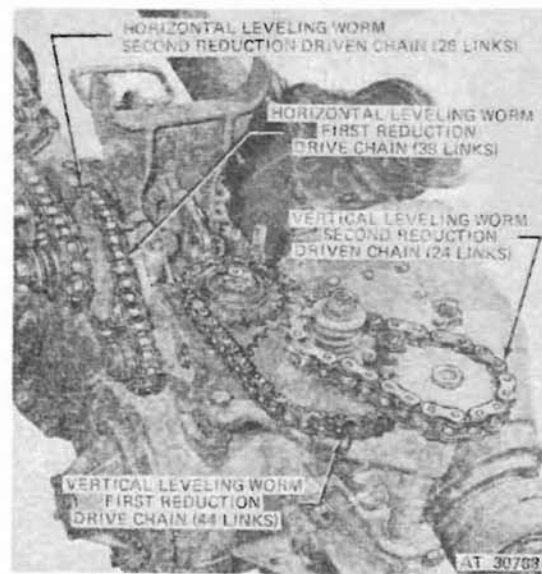
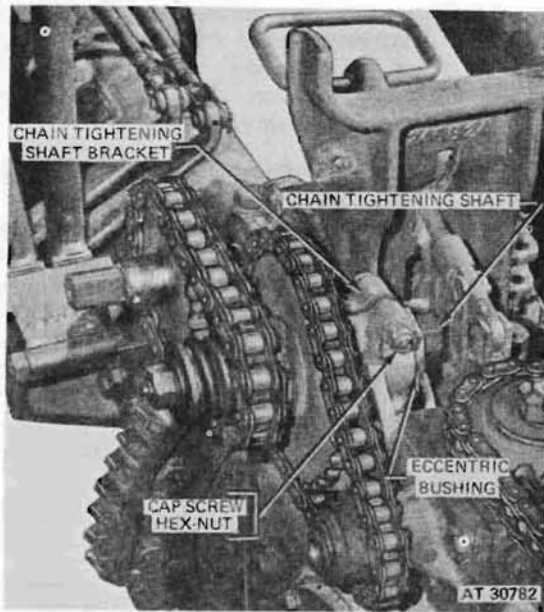

Figure 465. Earth boring machine leveling worm drive chains.
Figure 466. Horizontal leveling chain tightening points.
*a. Repair.* Refer to paragraph 418*a* for procedures for repairing the horizontal and vertical leveling worm drive chains. Each chain is composed of the number of links indicated in figure 465 when
(b) *Remove chain assembly.* Loosen cap screw and hex nut in chain tightening shaft bracket (fig. 466). Using 1-1/8 open end wrench and adjustable open end wrench turn eccentric holding chain tightening shaft (fig. 466) to loosen tension on first reduction drive and second reduction driven chains (fig. 465). Locate detachable connecting link on chain, and remove link plate from connecting link pins. Remove connecting link from end of chain, and remove chain from sprockets.
(2) *Installation.* Install first drive and second reduction drive chains and cover in reverse order of removal. Adjust chain tension (3) below, before installing chain cover.
(3) *Chain adjustment (fig. 466).* Using tools described in (1) *b* above, turn eccentric bushing while holding chain tightening shaft until each chain has approximately 1/2-inch deflection. After adjustment is complete, tighten cap screw and hex nut in chain tightening shaft bracket.
(b) *Remove chain assembly.* Remove first reduction drive and second reduction drive chains (fig. 465) as described in *b* (1) (b).